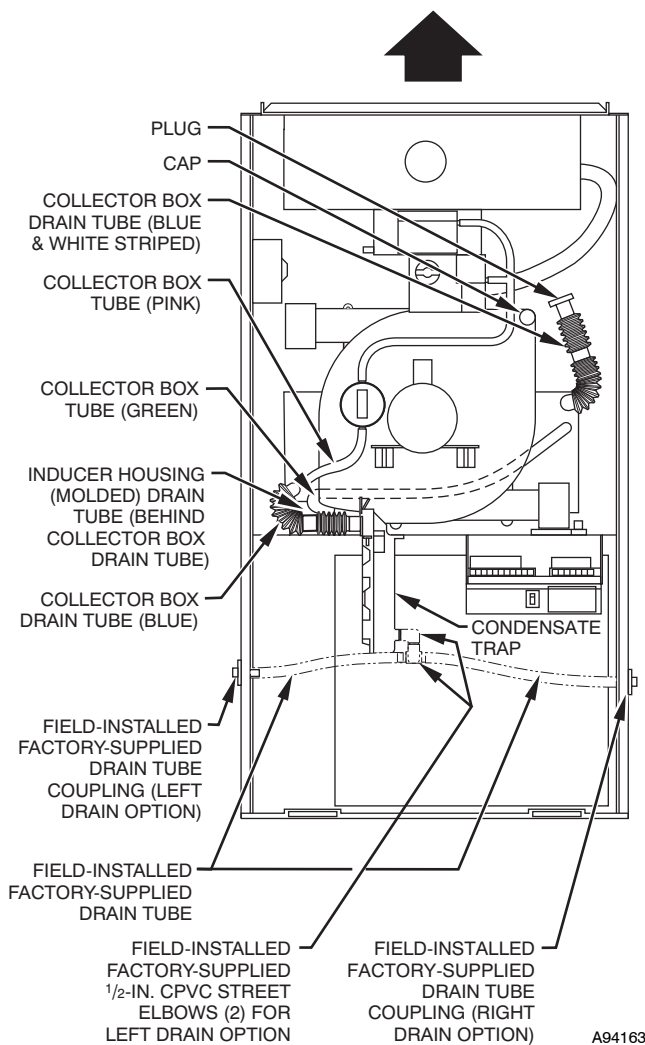

Fig. 6 - Factory-Shipped Upflow Tube Configuration (Shown with Blower Access Panel Removed)
and pressure tubes are connected as shown in Fig. 6. See appropriate application instructions for these procedures.
NOTE: See Fig. 6 or tube routing label on main furnace door to confirm location of these tubes.
- j. Cement 2 factory-supplied 1/2-in. (13 mm) street CPVC elbows to the rigid drain tube connection on the condensate trap. (See Fig. 6.) These elbows must be cemented together and cemented to condensate trap drain connection.
NOTE: See Fig. 6 or 7 or tube routing label on main furnace door to check for proper connections.